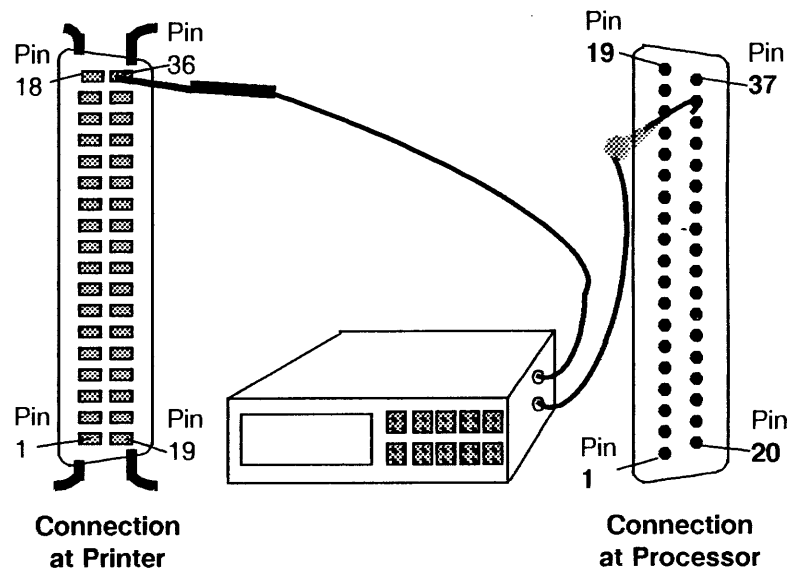

Figure 13. Interface Cable Continuity Check
19. Check continuity of the interface cable pin to pin (Figure 13). For example, check pin 1 to pin 1, pin 2 to pin 2, etc. The interface cable failed the continuity test.